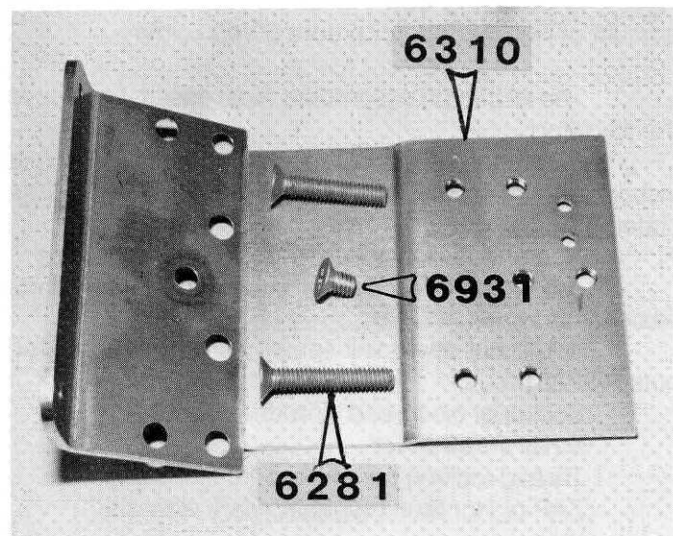

Fig. 1
□ **Fig. 1** We'll start with Fig. 1. Only take the parts out of the bag that we tell you, and no others. Look for bag #6-4 and take the #6310 gold anodized nose piece out of the bag, as shown in the photo and the #6931 8/32 x 1/4" Phillips flat head screw, as shown. Now take the two #6281 8/32 x 7/8" Phillips screws out of bag #6-2. DO NOT take anything else out of the bag.